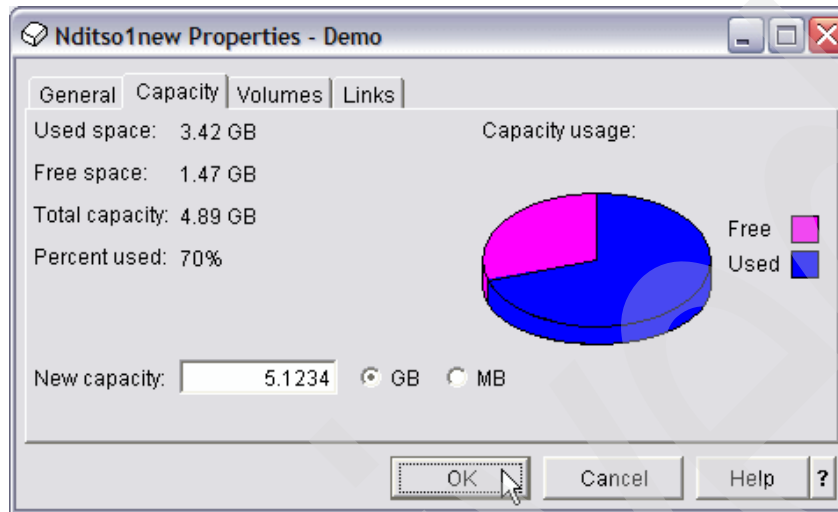

Figure 6-94 Capacity tab properties new created disk
8. The Properties window opens of the new created disk, click the **Capacity** tab (Figure 6-94), and enter the **New capacity** at the bottom.